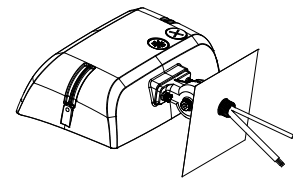

figure 1.5
- Step 3: Loosen screws; Adjust fixture angles as per actual demands and tighten screws later; Angles of the fixture is adjustable(pass the bracket through mounting surface, fix it with screws, then connect the wires as per proper wiring requirements.)(figure 1.5)